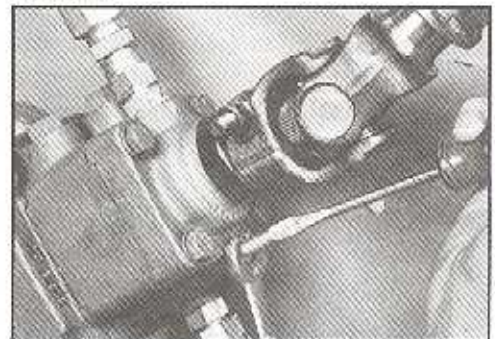

Figure 40
- 4.6 To adjust the other poppet, repeat these instructions for full lock in the other direction. SEE FIGURE 40.